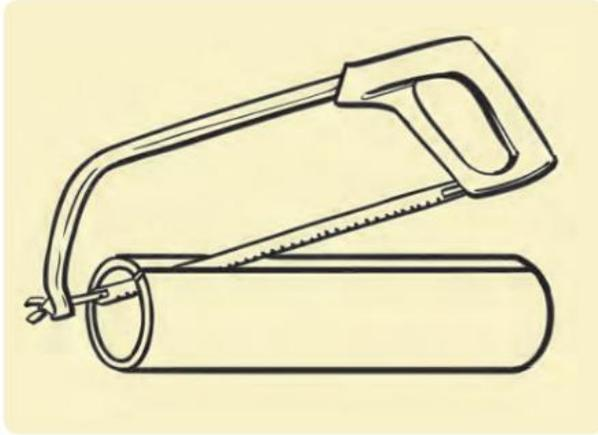

Figure 10.9 A round PVC pipe cut along the length
- 2 Cut along the length of the PVC pipe as shown in Figure 10.9.